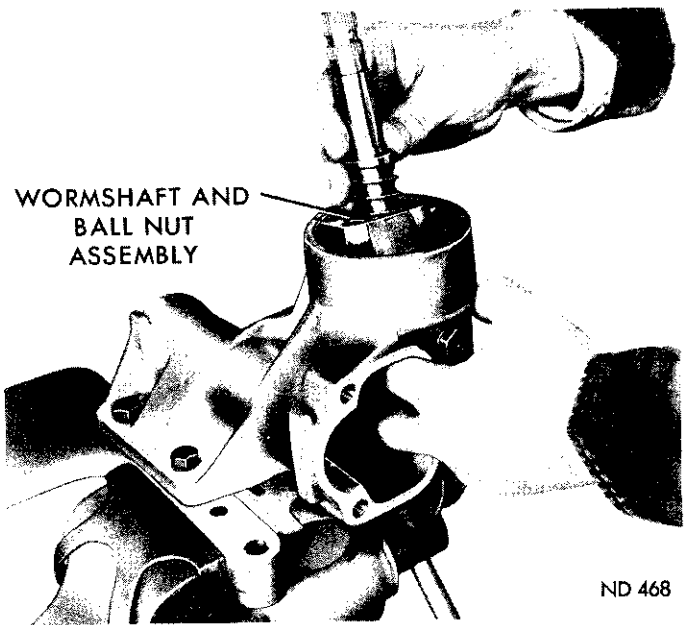
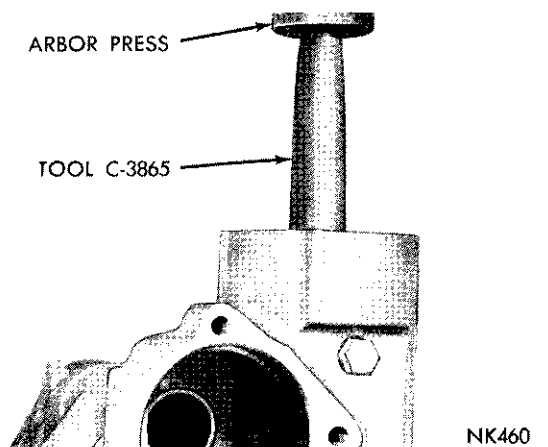

Fig. 6—Removing Worm Shaft And Ball Nut Assembly
Fig. 10—Installing Wormshaft Lower Bearing Cup
(9) Carefully remove worm and ball nut assembly (Fig. 6).
(21) Install wormshaft bearing cups, position bearing cup and spacer into adjuster nut, and press them in place with Tool C-3865 (Figs. 10 and 11).
(22) Install wormshaft oil seal by positioning seal in wormshaft adjuster with seal metal retainer UP. Drive seal into place with a suitable sleeve so it is slightly below end of bore in adjuster.
(23) Apply a coating of steering gear lubricant to all moving parts during assembly, also place lubricant on and around oil seal lips.
(24) Clamp holding fixture and housing in a vise with bearing adjuster opening upward.
(25) Place a thrust bearing in lower cup in housing.
(26) Hold ball nut from turning (Fig. 6), and insert wormshaft and ball nut assembly into housing with end of worm resting in thrust bearing.
(27) Place upper thrust bearing on wormshaft.